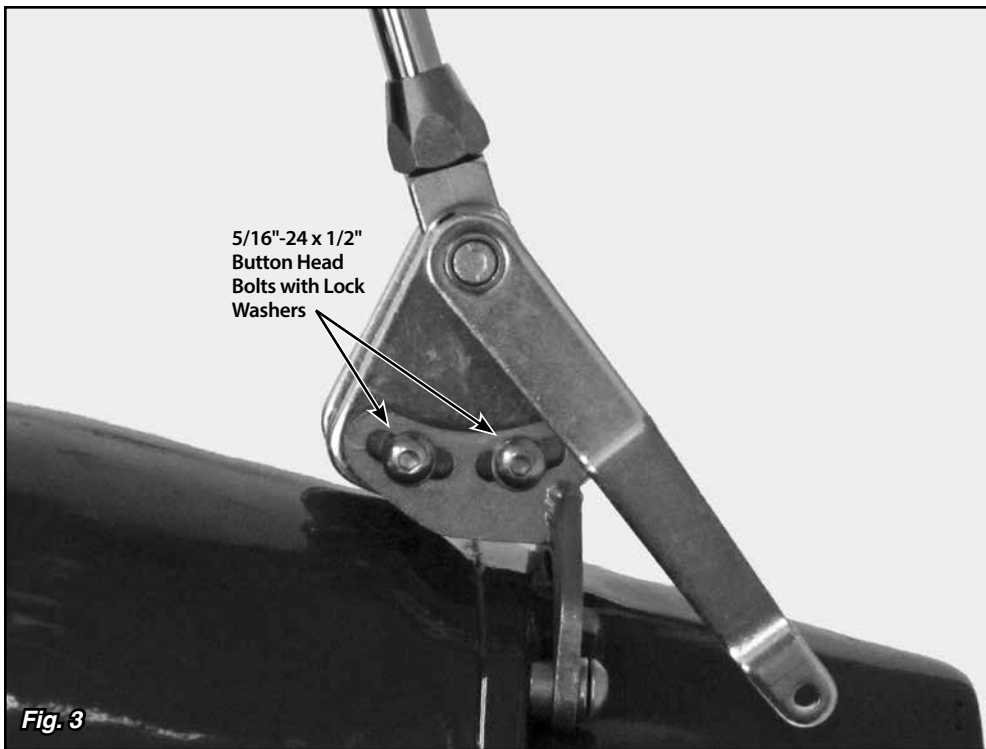

Fig. 3
Step 5: Insert the shifter assembly into the tailmount bracket so that the bolt holes line up with the curved, slotted holes in the welded banana brackets. Install four 5/16"-24 x 1/2" button head bolts and lock washers, using a 3/16" Allen wrench. **Fig. 3**
Step 7: Make sure the two 5/16"-24 x 1/2" button head bolts and lock washers in the driver side of the shifter assembly on the welded banana bracket are tight. Move the Shifter through all the gear positions. Make sure that the shifter lever and knob do not come in contact with the dash or the seat. The shifter assembly can be tilted forward or backward if needed by loosening the 5/16"-24 x 1/2" button head bolts and lock washers in the welded banana bracket on the driver side. Be sure to re-tighten the bolts in the welded banana bracket after adjusting the angle of the shifter assembly. **Fig. 3**